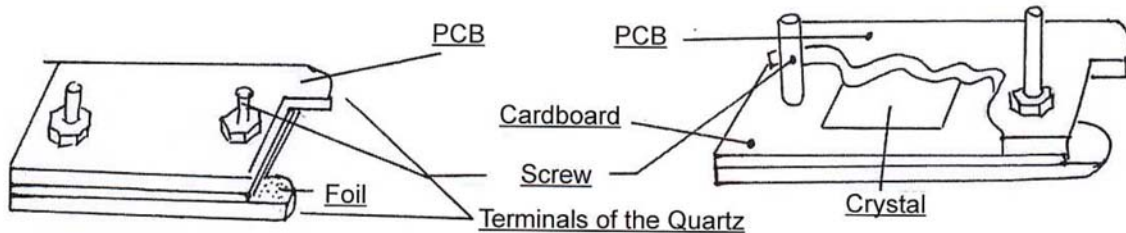

Figure 7 Home made holder for quartz plate
3. Make the holder for quartz shown on **Figure 7**.